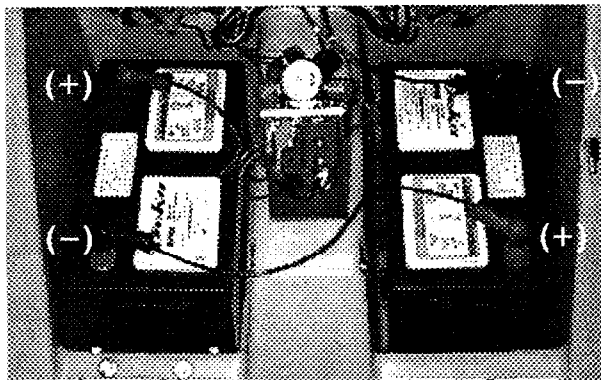

FIG. 4.
3. Carefully install batteries into compartment and arrange battery posts as shown. (Figure 4)
4. Find battery jumper wire located in your manual package. Connect jumper wire and two machine wires to battery posts as shown. RED to POSITIVE (+) and BLACK to NEGATIVE (-). Use rubber post covers provided. (Figure 4)